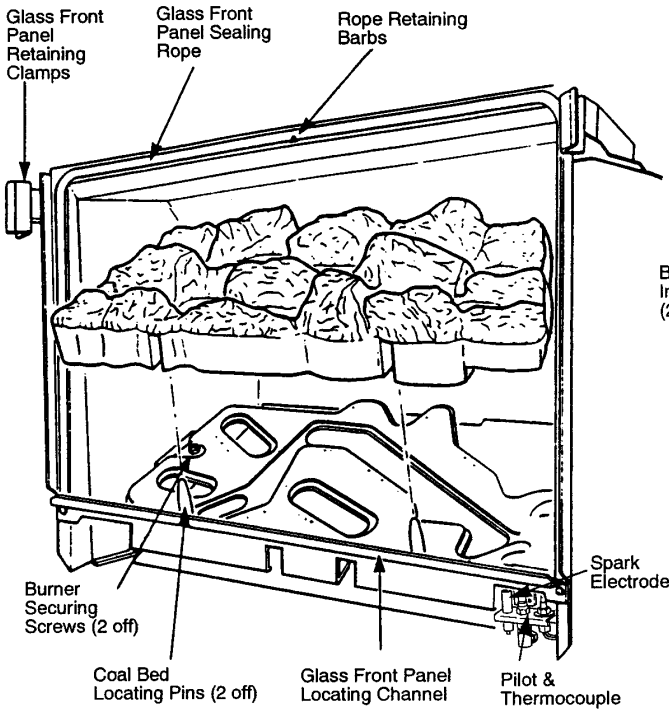

Fig. 10 Coal Bed
2. Remove the glass front panel (Fig. 10)
3. Remove the coal bed (Fig. 10)
4. Remove the burner (Figs. 10,11 and 12)
GLASS FRONT PANEL (Fig. 10)
Coal Bed (Fig. 10)
BURNER (Figs. 10,11 and 12)